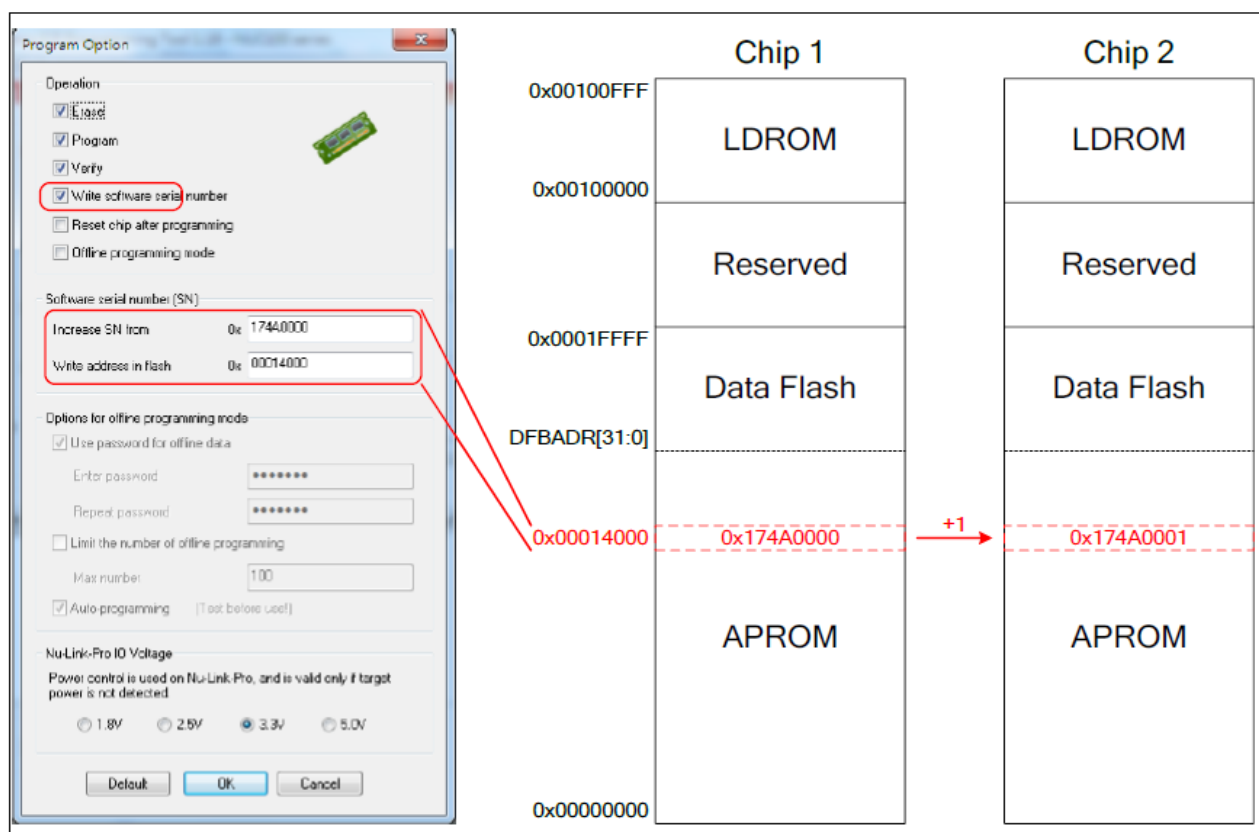

Figure 3-7 Software Serial Number (SN) Settings
3. Software Serial Number (SN)
The Software Serial Number (SN) function provided by the ICP Tool enables users to specify the value in the “Increase SN from” and “Write address in flash” fields for the target chip during online/offline programming. Take the NUC140VE3CN chip for example, the user can specify a set of “Increased Serial Number (SN)” and “Write Address” to any of APROM, LDROM, and Data Flash, and the written Serial Number (SN) will be automatically incremented (as shown in Figure 3-7).